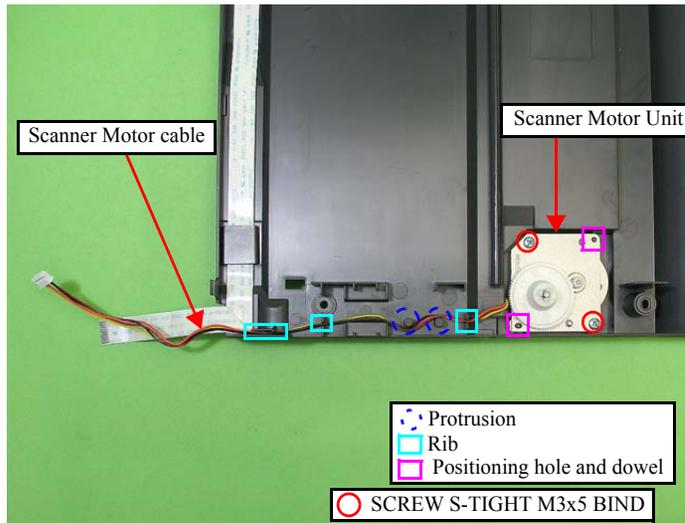

Figure 4-115. Removing the Scanner Motor Unit
- When installing the Scanner Motor Unit, align each dowel at the bottom of the Scanner Housing with their positioning holes of the Scanner Motor Unit. (See Fig.4-115.)
- Route the Scanner Motor cable through the three ribs and the two protrusions at the bottom of the Scanner Housing. (See Fig.4-115.)